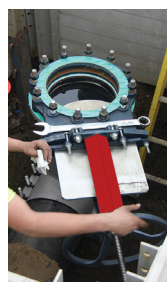

FIGURE 15
- **The 12" gate temporary valve** must be installed with the red bar facing up (see Figure 15).
For 10"-12" Installations: Install the green fiber gasket (without holes) on the top side of the temporary gate valve (see Figure 15).